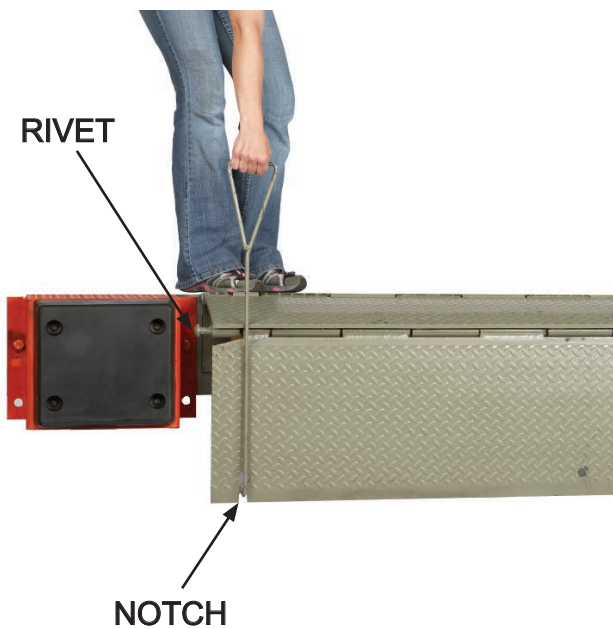

Figure 13
a. While standing behind the unit, use lifting hook to pull back and up on rivet, OR engage on the notch until leveler is cocked. See Figure 13.